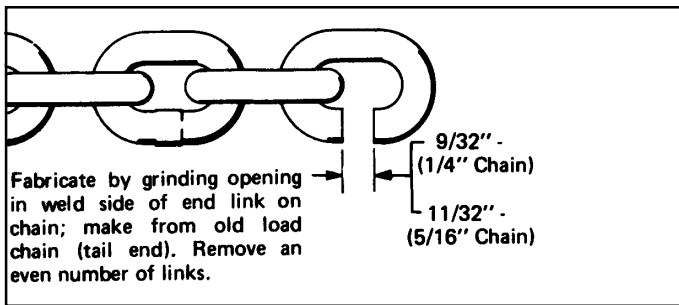

Figure 5-3. Open "C" Link for Removing and Installing Link Load Chain
(3) Removing and Replacing Coil Load Chain.
- (a) Replacement coil load chain is installed by attaching it to tail end of old chain, after disconnecting old chain from side of hoist frame and removing limit actuator. New chain is then run into hoist as old chain is run out. Use open "C" links, Figures 5-3 and 5-4, for attaching chains. Links must be identical in size to hoist chain - 5/16" wire size with .858" pitch length for all models. Be certain that all welds on links of replacement chain face away from center of load sprocket.